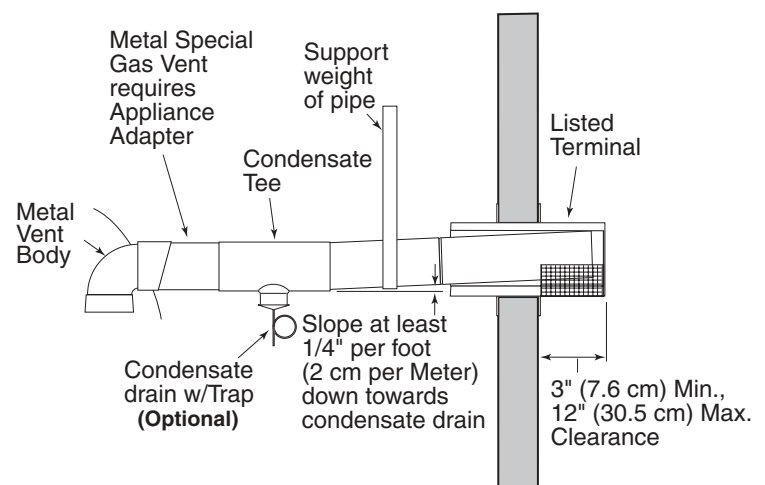

Figure 19.
- at least 3" and at most 12" out from the wall (see Figure 19), following the vent manufacturer's instructions